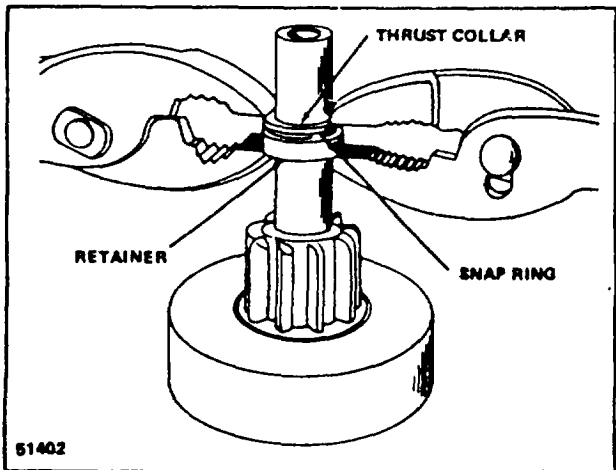

Figure 60. Forcing Retainer Over Snap Ring
- c. To force the retainer over the snap ring, place a suitable washer over the shaft and squeeze retainer and washer together with pliers (See Figure 60).